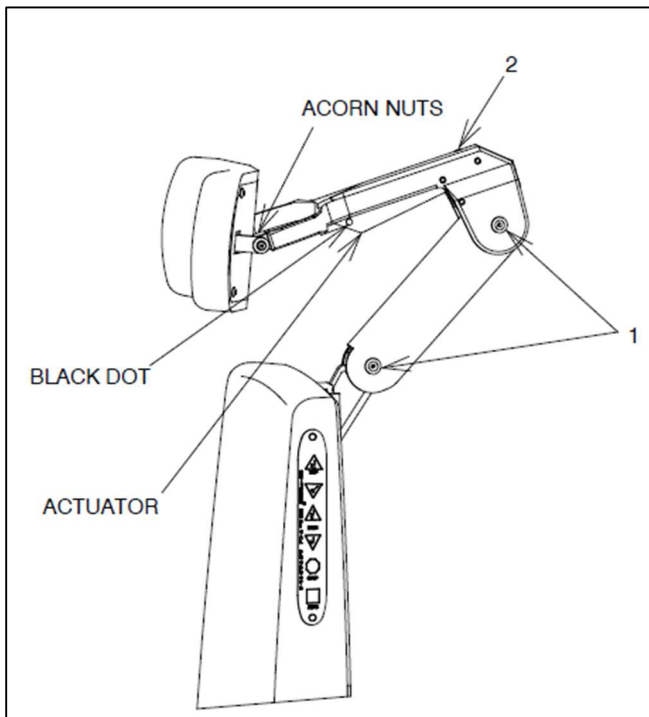

FIGURE 4
3.9.2.1. The No. 18, 22 headrest is designed so it can be operated with just one hand. To unlock, squeeze the clear plastic actuator into lock housing. This will allow both pivots of the articulating arm to rotate so the headrest can be moved to a new desired position. Once in the new position, release the actuator. Make sure the actuator expands to its original position fully exposing black dot on handle to insure a positive lock. The headrest pad is free to rotate at all times (See Figure 4).
3.9.3.2. To adjust the drag on the pivots of the articulating arm, loosen the set screw in the center of the pivot (Figure 4, item 1) with a 3/32" hexagon key wrench. Next, tighten the pivot screw on the other side of the pivot, with a 1/8" hexagon key wrench. Now, retighten the set screw to retain the pivot screw at the new adjustment. Either pivot may be adjusted.
3.9.3.3. The third adjustment is for proper clearance of the block dot to indicate that the headrest is properly locked. If the dot does not fully clear the lock housing when the headrest is lock securely, turn the set screw located at the top of the lock housing (Figure 4, item 2) counterclockwise until the dot on the actuator is fully exposed.